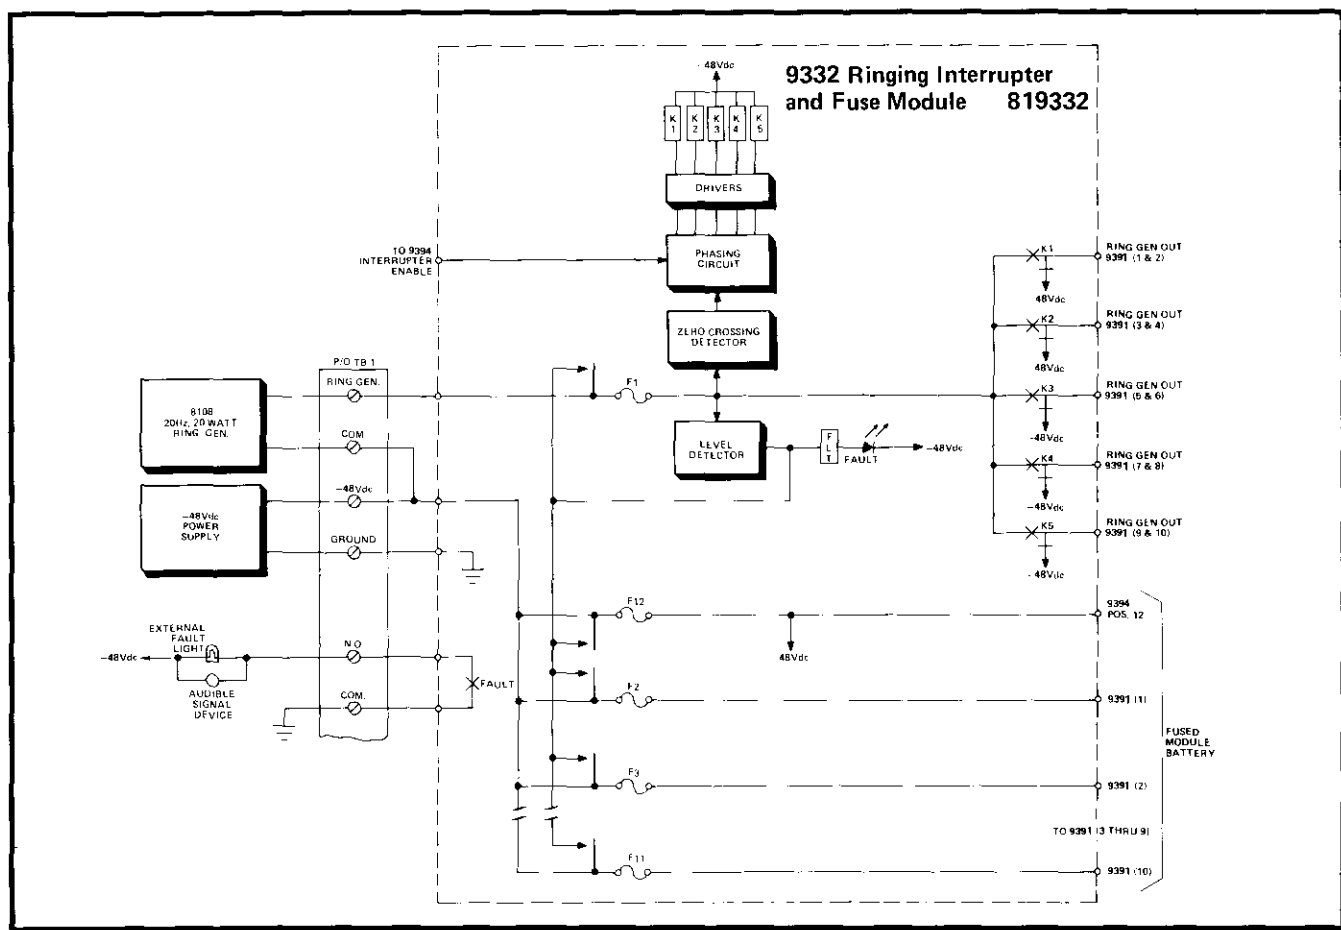

figure 4. 9332 Ringing Interrupter and Fuse Module (819332) block diagram
2.07 The 9332 Ringing Interrupter and Fuse Module (please refer to figure 4) provides 12 distribution fuses to separately fuse each of the ten